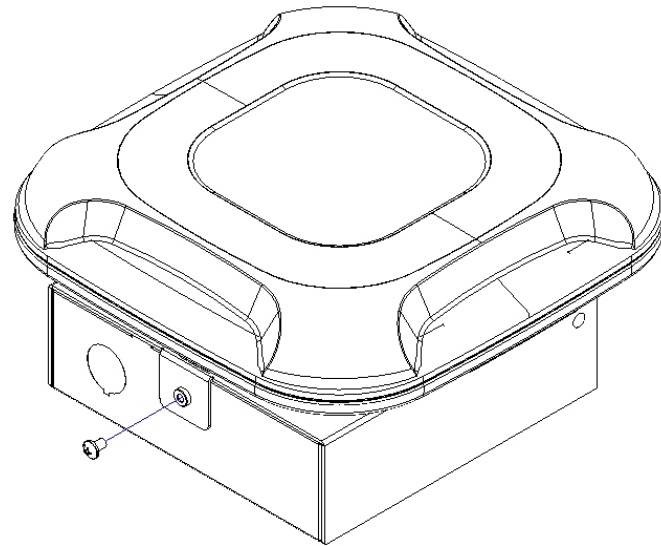

Figure 6
Step 4 - (Aruba and Cisco) Connect equipment cord between AP and data receptacle jack or surface mount box (if used). Close the cover over the base, so that screw hole in cover aligns with threaded screw holes in base. Again, consider bend radius of equipment cord when cover is attached. Fasten cover to base with screw included (Ref. Figure 6).